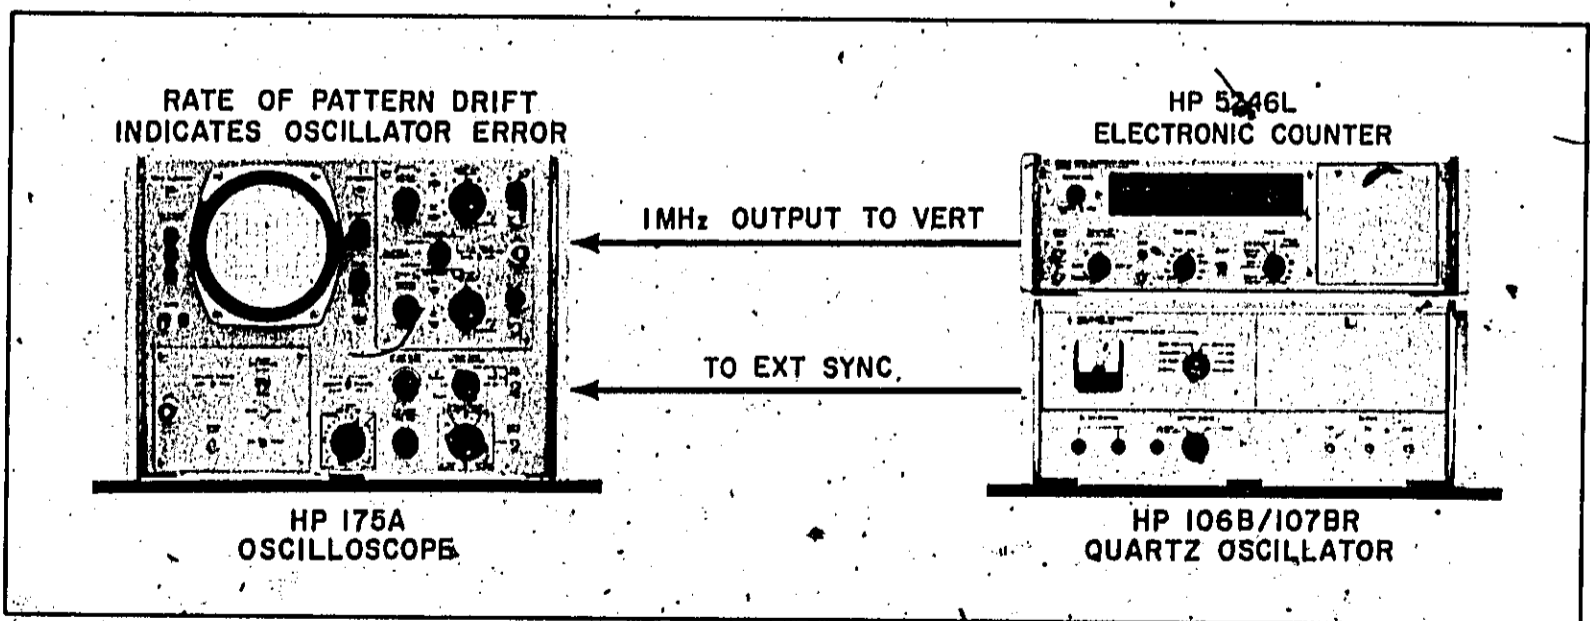

Figure 4-1. Test Setups for Checking Oscillator Frequency
e. Adjust Oscillator tuning capacitor C3 (Figure 4-1) until pattern on Oscilloscope stops drifting.